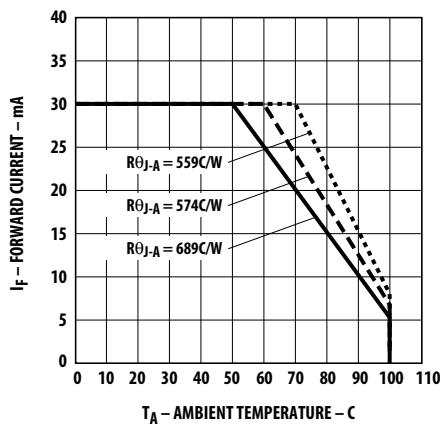

Figure 5. Maximum forward dc current vs. ambient temperature derating based on  $T_J \text{ MAX.} = 110^\circ\text{C}$ .
3. Derate linearly as shown in Figure 5.